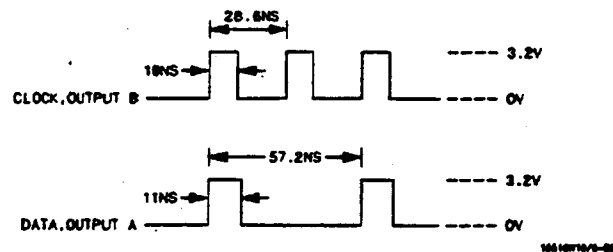

Figure 3-17. Pulse Generator Waveform For Test 3
- Set the pulse generator as follows for the output shown in figure 3-17.